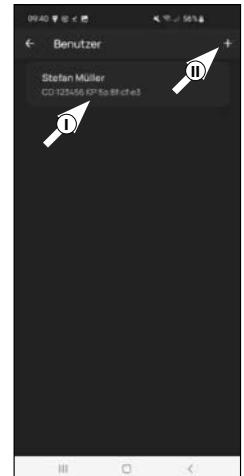

Fig. 2
Note: Alternatively, a new additional user profile can be created at this point. To do so, tap the "+" in the top right-hand corner (II) (Fig. 2).